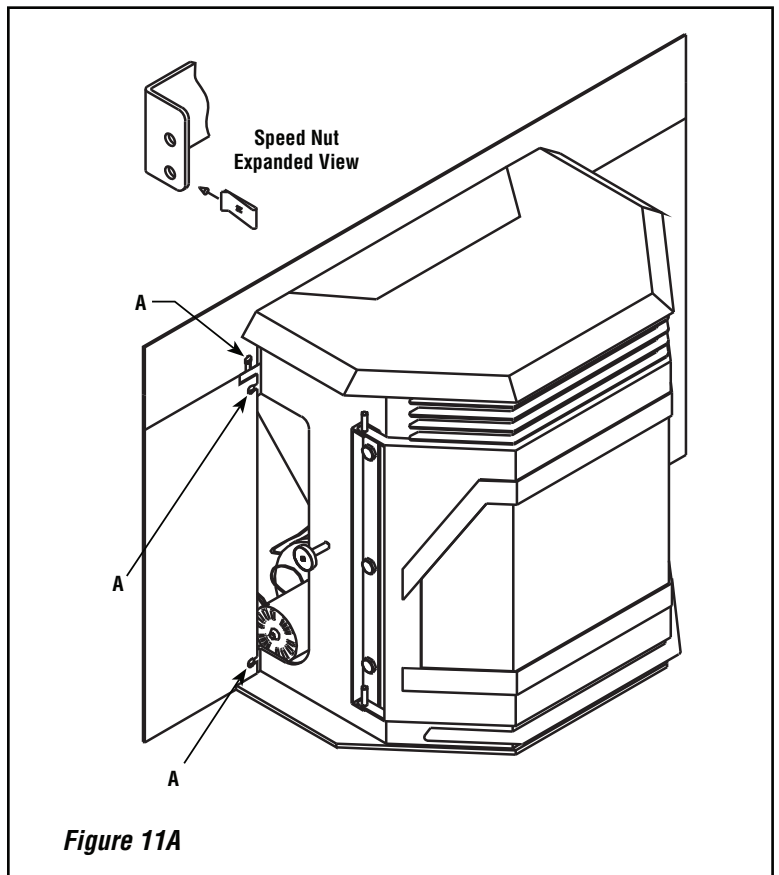

Figure 11A
1. Remove the side doors (see **Page 24**) to access the surround mounting brackets. Remove the speed nuts from the parts bag found in the firebox. Install the six speed nuts (with the flat surface forward) on the six surround mounting bracket holes, three on each side of the insert. A flat-bladed screwdriver may help in installing the nuts. See the expanded view in **Figure 11A**.
2. Screw the six 1/4" truss head screws partially into the speed nuts (see A in **Figure 11A**).